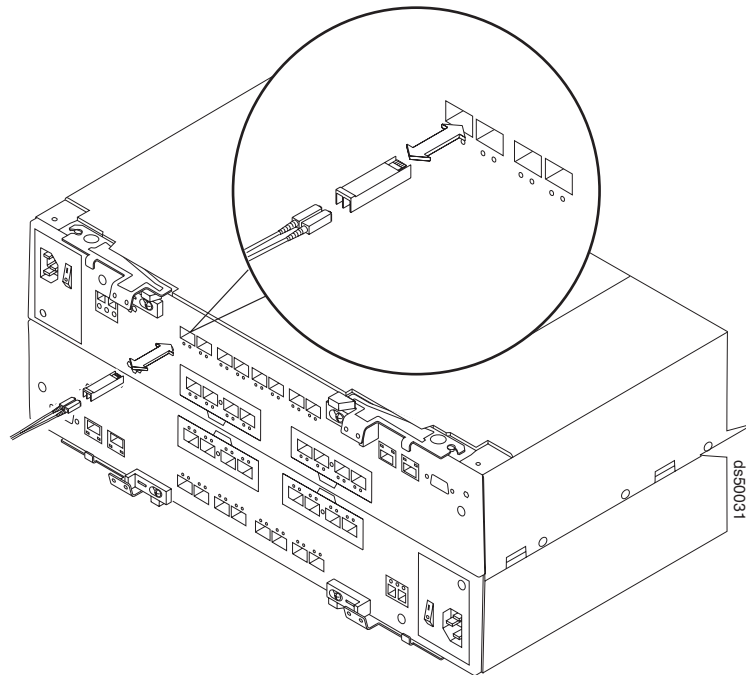

Figure 24. Connecting fiber-optic cable to SFP
2. Connect the fiber-optic cable to the installed SFP, as shown in Figure 24.